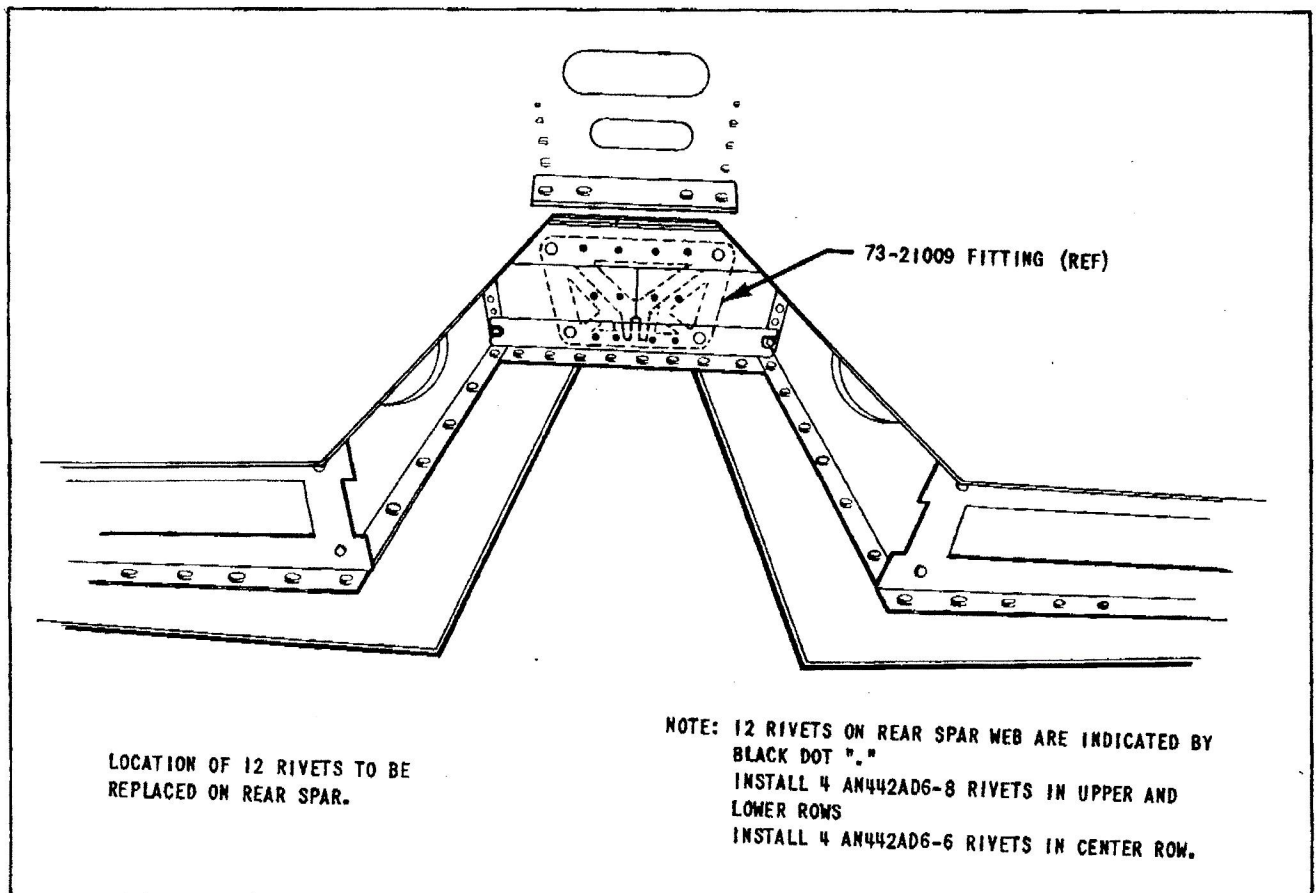

Figure 3 - Aft View of Horizontal Stabilizer
a. Drill out the 12 center rivets located on the web of the horizontal stabilizer rear spar (3 rows - 4 rivets per row) as shown in figure 3 using a No. 12 (.189-inch) drill.
(12) Attach the doubler to the skin using six rivets, part No. AN426AD4-5.
(13) Rivet the doubler web to the rib web using rivets, part No. AN442AD4-5, as required.
**NOTE** The webs should be riveted together in at least four places as indicated in figure 3. Additional rivets will be required if the rib web has been cracked; these should be located as necessary to properly reinforce the rib web.
(14) Reinstall the vertical stabilizer rear tip rib, part No. 73-23022, using eight rivets, part No. AN426AD3-4.